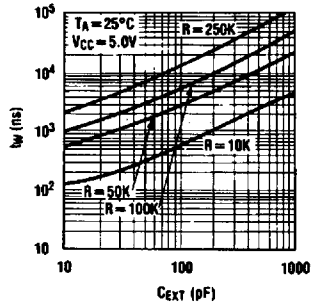

FIGURE 3
5. For $C_X < 1000$ pF see Figure 3 for T_W vs C_X family curves with R_X as a parameter.